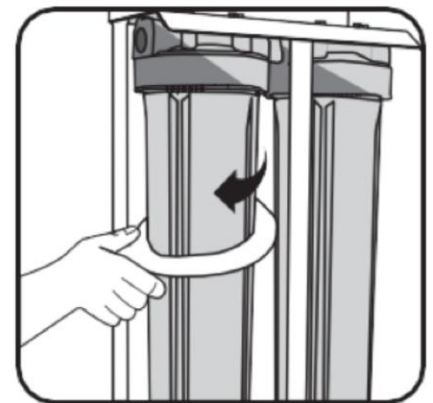

Figure 2. Unscrew the housing counterclock wise
3. Open the housings: Slide the spanner underneath the first housing and twist the housing counterclock wise. Once is unlocked, unscrew the housing using both hands (Figure 2).